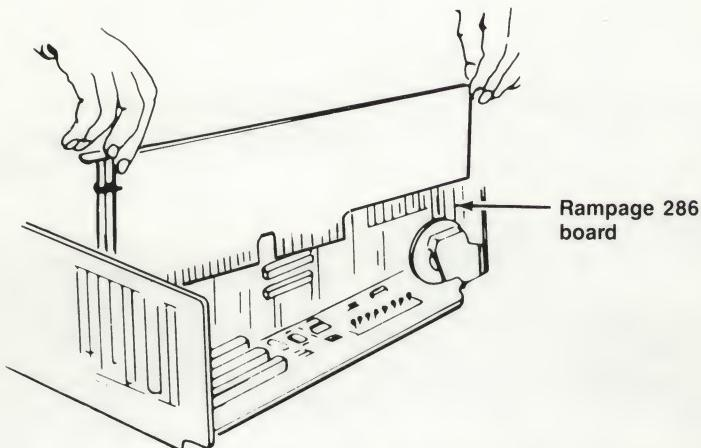

Figure 3-4. Installing the Rampage 286 Board.
*Install the Rampage 286 board:* Line up your Rampage 286 board and position its front bottom corner in the card guide channel. Position any wires or ribbon cables so they will pass either beneath or above the installed board and will not be damaged during installation. Lower the board until its edge connector rests on the expansion slot receptacle. Using an evenly distributed pressure, press the Rampage 286 board straight down until it is completely inserted into the expansion slot (Figure 3-4).